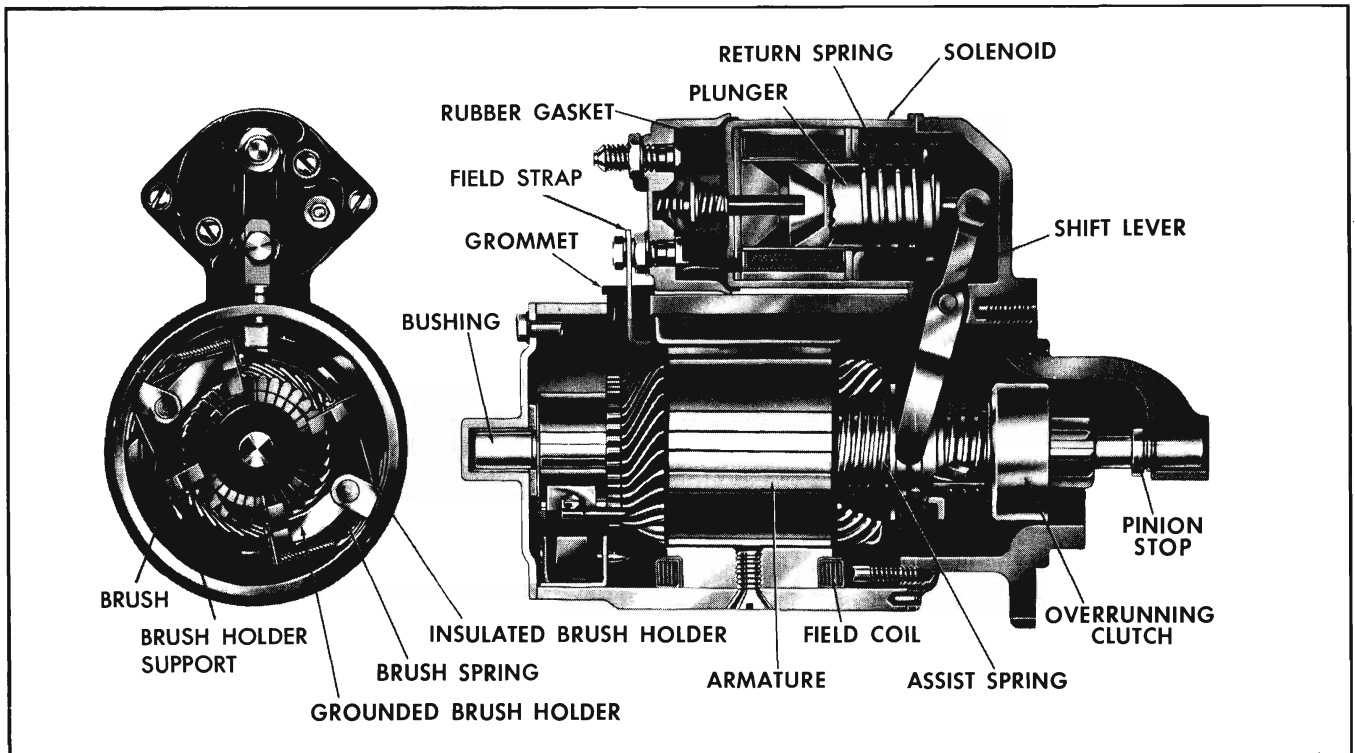

Fig. 11-5 Cross Section of 4 Cylinder Engine Starting Motor
The enclosed shift lever starting motors (Figs. 11-5 and 11-6) are 12-volt extruded frame type units.
1. Disconnect the field strap (Fig. 11-5) from terminal on solenoid.